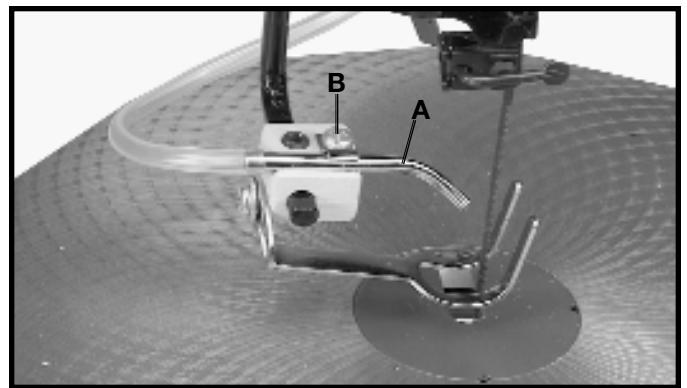

Fig. 35
The dust blower (A) Fig. 35, may be moved to direct air to the most effective point on the cutting line by loosening screw (B), adjust nozzle (A), and tighten screw (B).